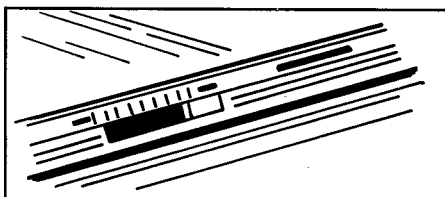

FIGURE 19
**Hi-Humidity Drawers** have a control to regulate humidity inside. Set high humidity for leafy vegetables such as cabbage and lettuce, and set low humidity for produce with skins such as apples and tomatoes. On models with humidity control, slide control to the left for high humidity and to the right for low humidity. See Figure 19.